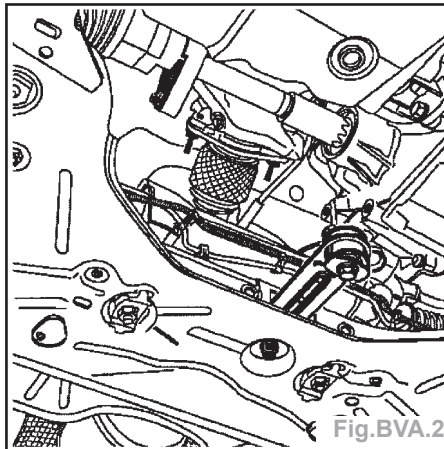

Fig.BVA.2
- la biellette anti-couple (Fig.BVA.2).